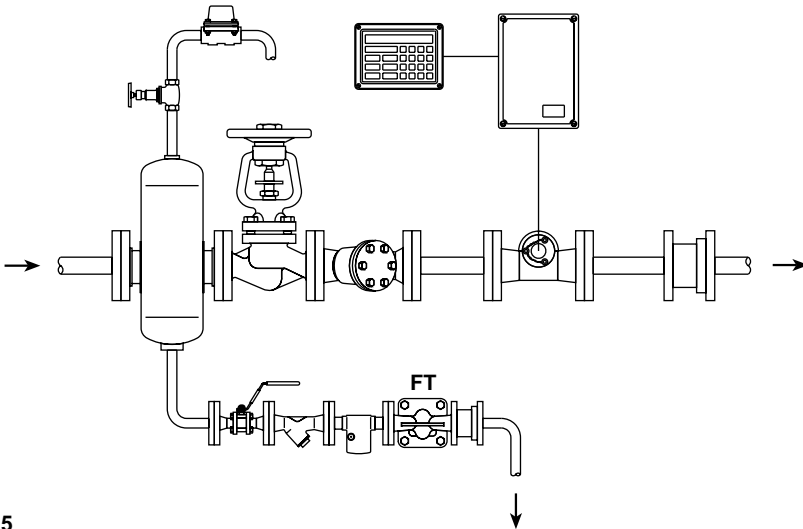

Fig. 5
- 3.5** The trap should be fitted below the outlet of the steam system, with a small drop leg immediately preceding the trap, typically 150 mm (6") . See Fig. 5. If no drop leg is allowed for then it may be possible (under low load conditions) for steam to flow over the condensate in the bottom of the pipe and reach the trap.